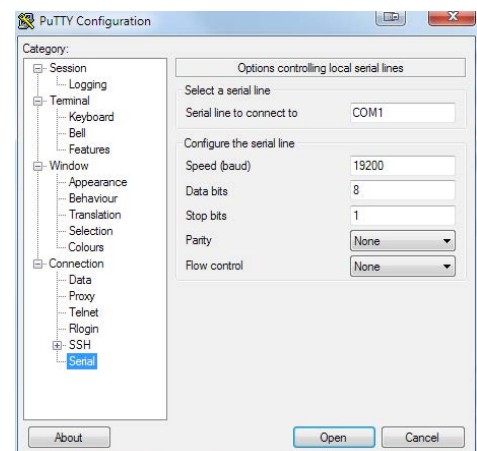

Figure 3: PuTTY Serial Settings
- In the **Category** list, select **Serial** at the bottom of the list as shown in Figure 3.